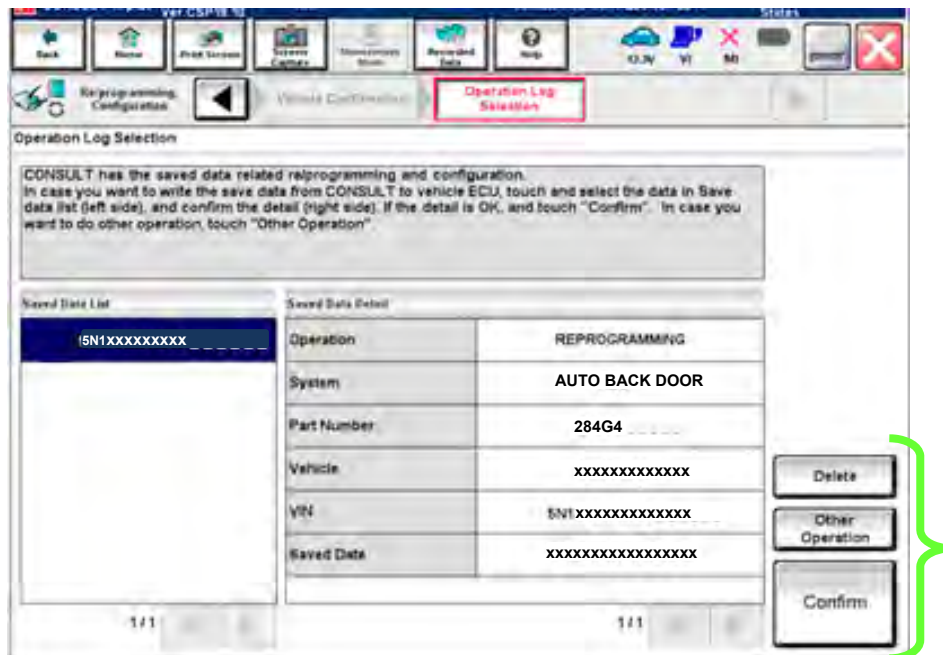

Figure 12
23. If the screen in Figure 12 appears, first select **Delete**, then **Confirm**, and then **Other Operation**.